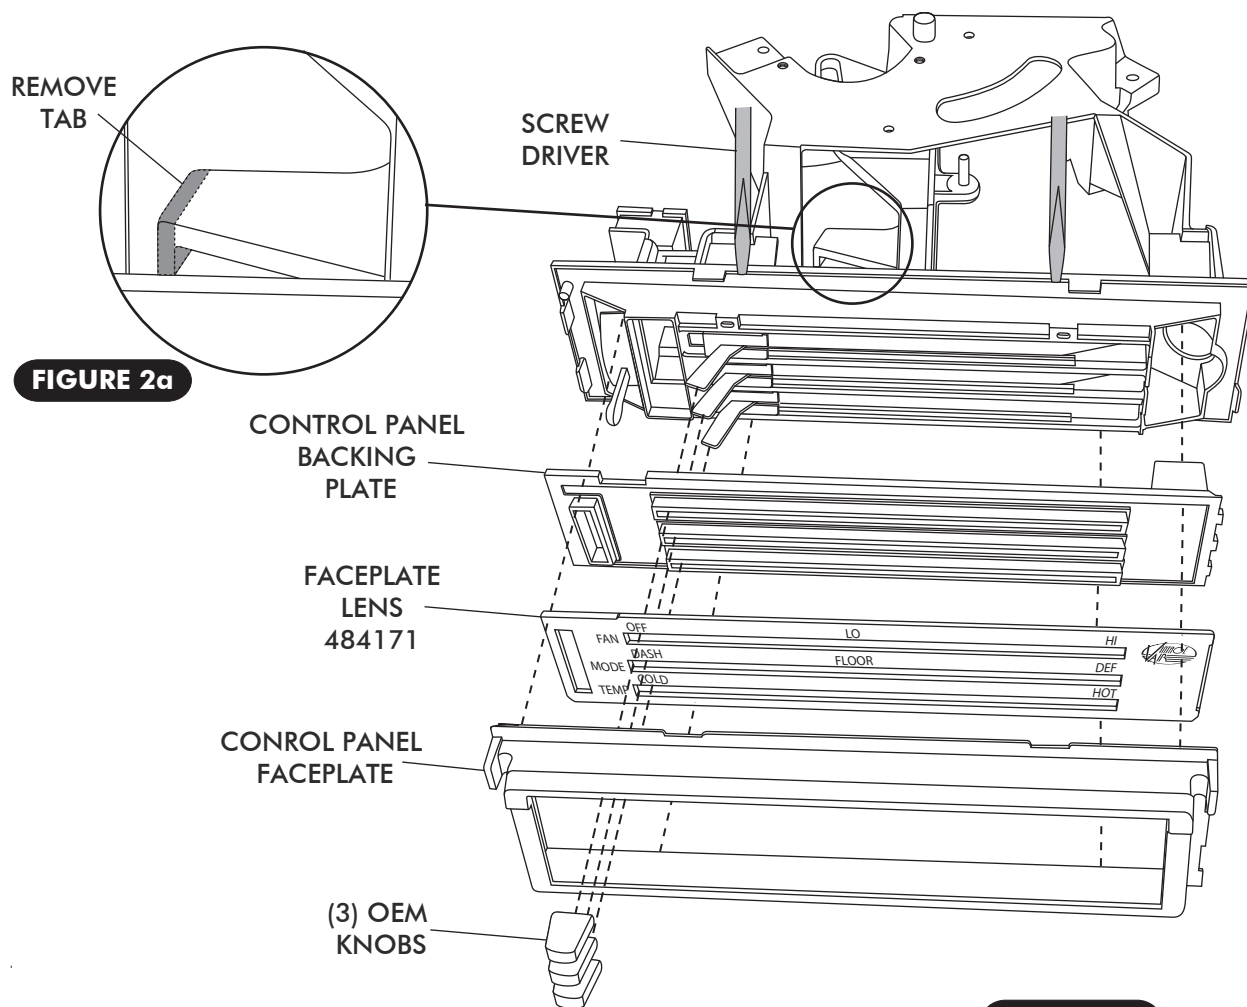

FIGURE 2
- ☐ REMOVE (3) LEVER KNOBS (RETAIN)
- ☐ REMOVE CONTROL PANEL FACEPLATE USING A SCREW DRIVER AS SHOWN IN FIGURE 2 BELOW.
- ☐ INSTALL NEW FACEPLATE LENS. (SEE FIGURE 2 BELOW.)